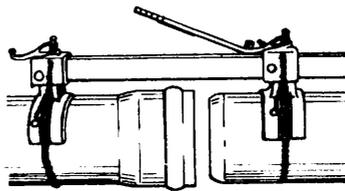

Fig. 3
*LLAVE PARA ACOPLAR TUBERÍAS DE PLÁSTICO* (fig. 3)